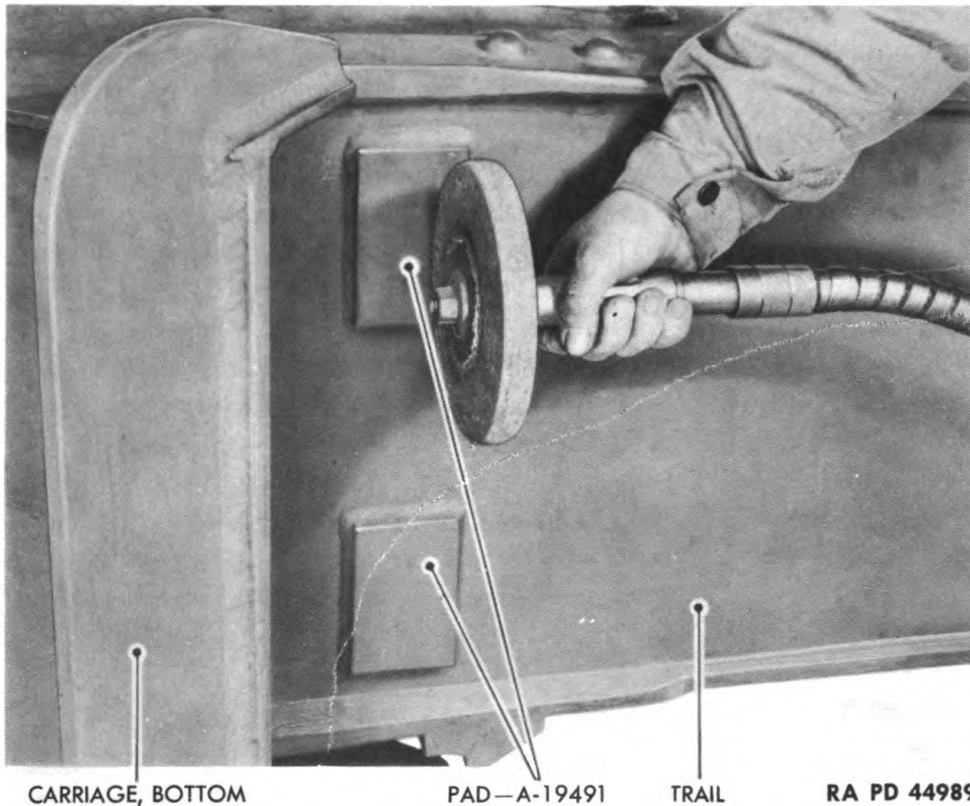

Figure 312—Grinding Trail Pads
(4) In cases where there is a variation greater than $\frac{1}{2}$ inch in the two measurements, it will be necessary to grind metal off the pads on the outside of the trail that does not open as far as the other (fig. 312). Remove just enough metal to obtain proper measurement.